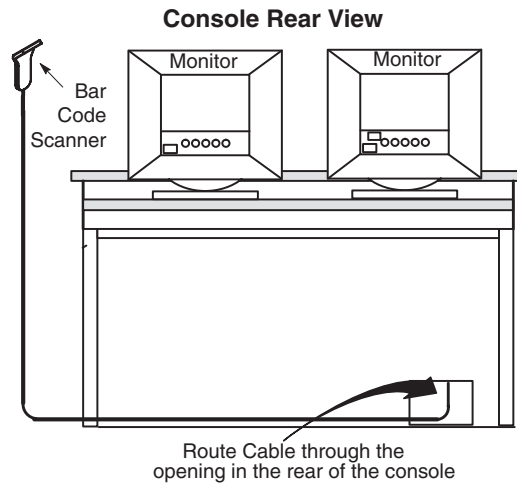

Figure 6-1 Bar Code Reader Installation
- 2.) Route the bar code scanner cable through the opening in the rear of the console (Figure 6-1).